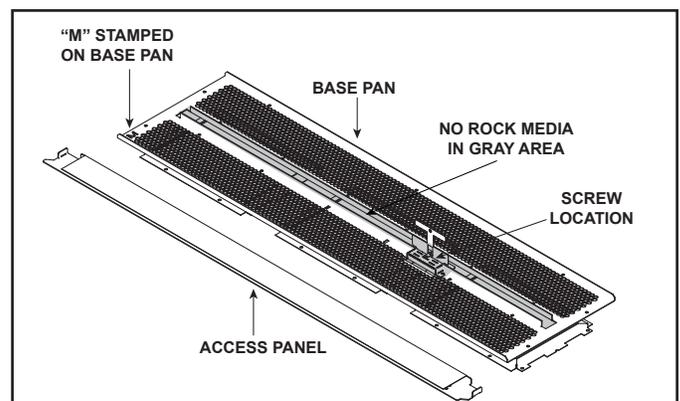

Figure 2. Location of Rock Media Placement Jig
3. Verify that the correct basepan is installed inside the appliance. See Figure 2.
4. Place an even layer of rock media around the base pan as shown in Figure 2 and Figure 3. Do not place rock media in the slot over the burner ports. See Figures 2 and 3. Figure 2 shows an outline of the burner tracks and the area in front of the pilot assembly. No rock media may be placed in the outlined area. Continue to place an even amount of rock media over the entire base pan. **DO NOT** install rock media in between the tracks over the entire length of the burner. This may cause lighting issues, undesirable burner flame, or delayed ignition.